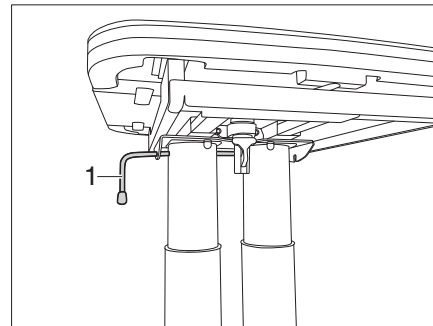

Fig. 105 Lock the table
- Swivel the catch lever (Fig. 105,1) to the left. The lock is open.
- Swivel the catch lever (Fig. 105, 1) to the right. The lift-off table is locked.